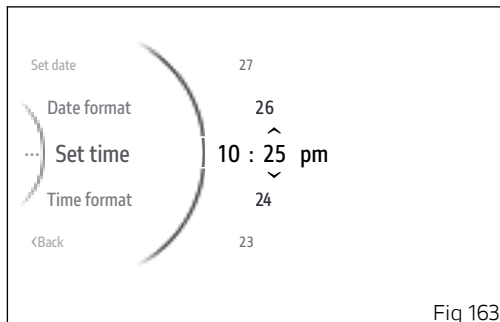

Fig 163
The arrows and available values appear for the number of minutes (Fig 163). Use buttons (1) and (2) to scroll and select the desired value. Press ENTER (3) to confirm and move on to the AM/PM selection.